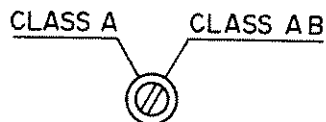

Fig. 2
3.1 CLASS AB (Set the CLASS AB, CLASS A selector switch on the rear panel to CLASS AB. Fig. 2)